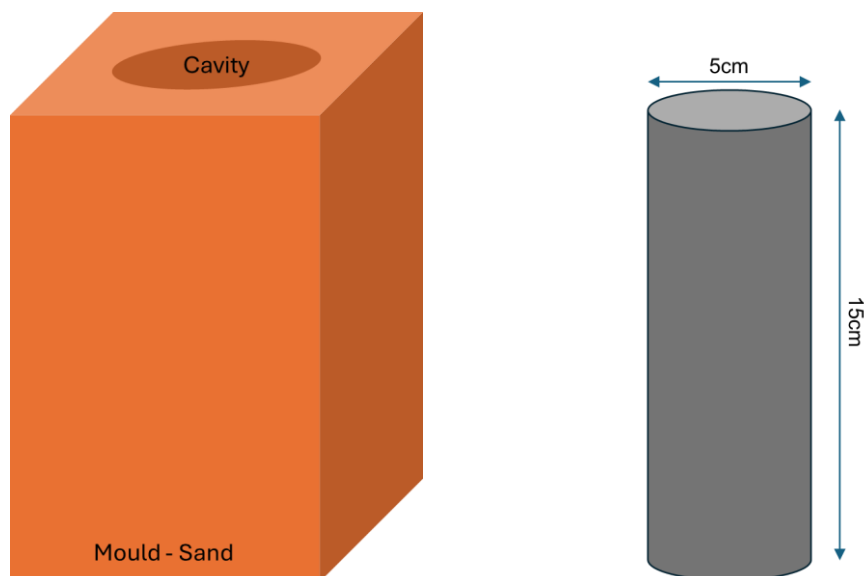

Figure Q1a: Schematic of the mould used and the required shape
1. (a) A company wants to cast a cylindrical component from an aluminium alloy, 15 cm high and 5 cm in diameter, as shown in Figure Q1a alongside the mould they are using. They are however finding it impossible to cast the shape they need using this mould. They come to ask you what they should do. Draw a diagram for each of the following casting terms and explain how they form: